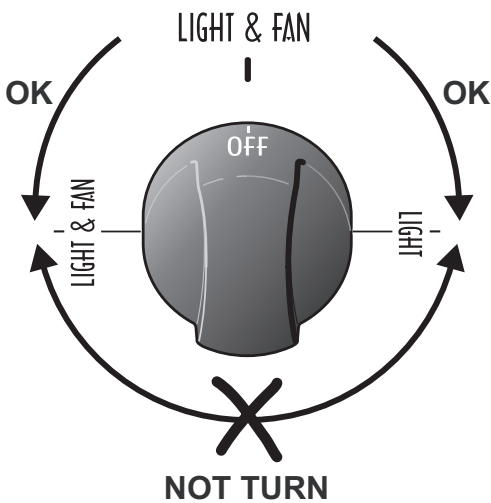

Fig. 3.2
The oven light and the fan motor are controlled by a switch knob on the control panel (fig. 3.2). To light up the oven lamp turn the knob anti-clockwise to **LIGHT** position. To operate the fan motor turn the knob clockwise to **LIGHT & FAN** position. In this setting also the oven lamp is lighted.
**IMPORTANT NOTE:** during ignition of the oven burner the fan motor shall be switched off (light and fan control knob in **OFF** position - Fig. 3.2).
After lighting the oven burner switch on the fan motor by turning the LIGHT & FAN control knob (fig. 3.2) on LIGHT & FAN position.
With the oven burner control knob in **OFF** position turn the LIGHT & FAN control knob (fig. 3.2) on LIGHT & FAN position.